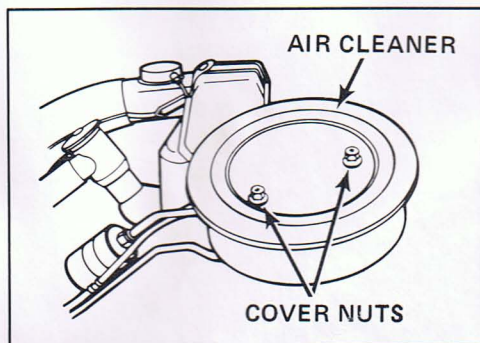

Figure 1 - Top of engine, 4-cylinder
1. Remove the two nuts on top of the air cleaner. See Figure 1 or 2.